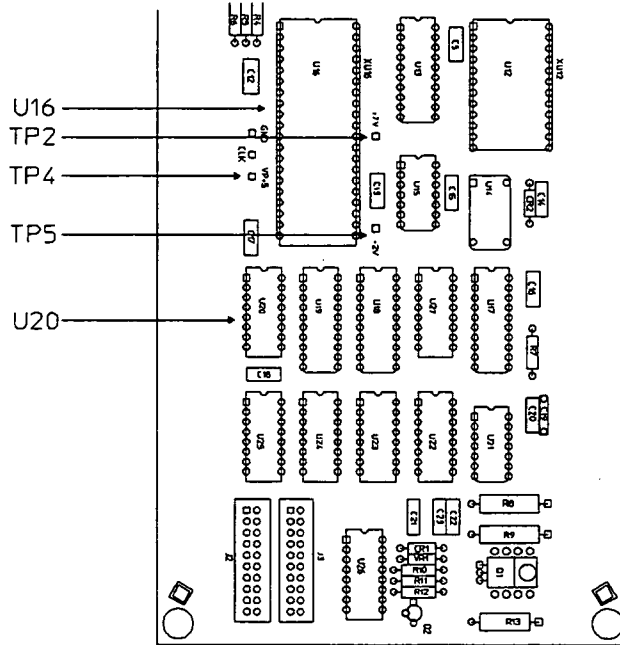

Figure 5-12. A82 Adjustment Locations
1. Monitor internally regulated power supplies as indicated in table 5-8. Refer to figure 5-12